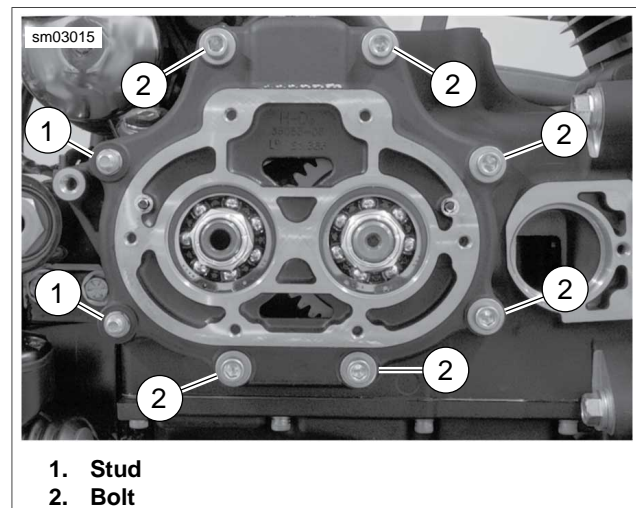

Figure 7-32. Side Door Hardware
6. See Figure 7-32. Using crosswise pattern, tighten all side door hardware (1, 2) to 13-18 ft-lbs (17.6-24.4 Nm).